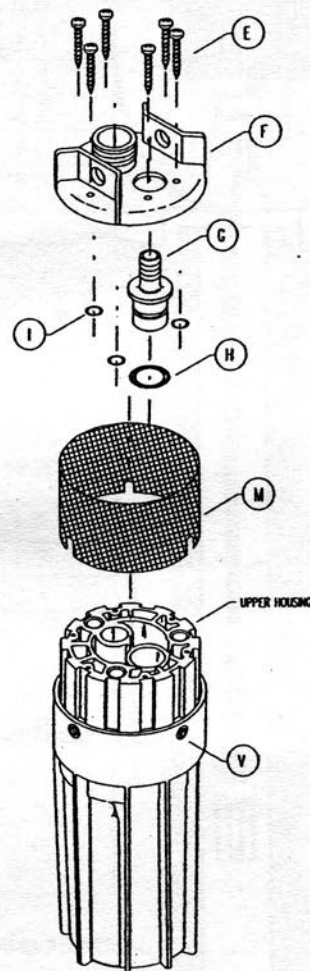

FIGURE 15
**11) Install the Filter Screen (Part M) (Fig. 15).**
**12) Install the Outlet Fitting (Part G) (Fig. 15).**
**13) Install the Lift Plate (Part F) with three the O-Rings (Part I) on the posts (Fig. 15).**